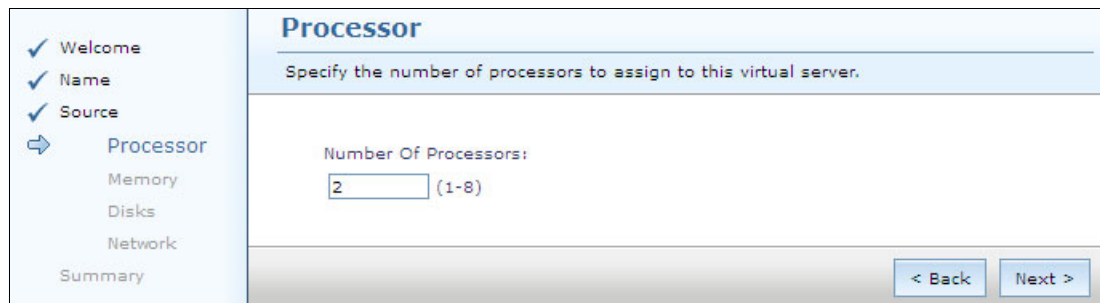

Figure 11-8 Create Virtual Server Processor window
7. Specify a number of virtual processors to assign to the virtual server. In this case, enter 2 and click **Next**, as shown in Figure 11-8.